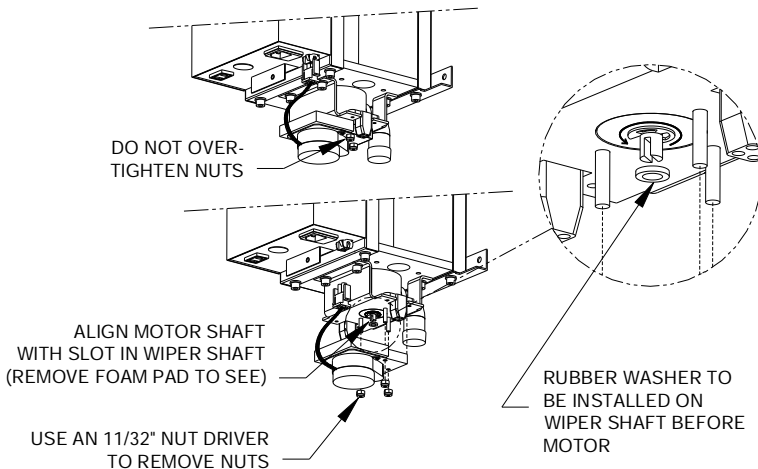

Figure 4C
Step 5: Use the 3/16" Hex wrench to remove the top bracket (14) by undoing the four fasteners in an alternating pattern (top left, bottom right, bottom left, then top right). The bottom bracket does not require removal to clean the quartz, so leave it in place. This will support the quartz sleeve during cleaning and simplify the overall process.
Step 6: Remove the top end cap (17) by lifting it straight up.
Step 7: Disconnect the wiper motor (5) from the bottom bracket (22) by undoing the three nuts. See Figure 4C. Pull off the motor plate and foam pad (21) from the mounting standoffs and unplug the motor. Set the motor aside, holding it by the body, not the wires. **Do not place the motor in any location where it can be exposed to moisture.**
Step 8: Remove the wiper assembly (6). This is a two-step process. First, remove the rubber washer (20) and shaft retaining ring (18) and place them in a safe place. Second, carefully lift the wiper assembly up out of the quartz sleeve. Pushing up on the round wiper shaft that protrudes through the bottom end cap will help start it to move. Once the wiper assembly is free from the quartz, check if the U-cup seal (27) is on the wiper shaft and ensure that it does not fall off or get dirty. **Caution: the wiper blades are sharp, handle them with care.**